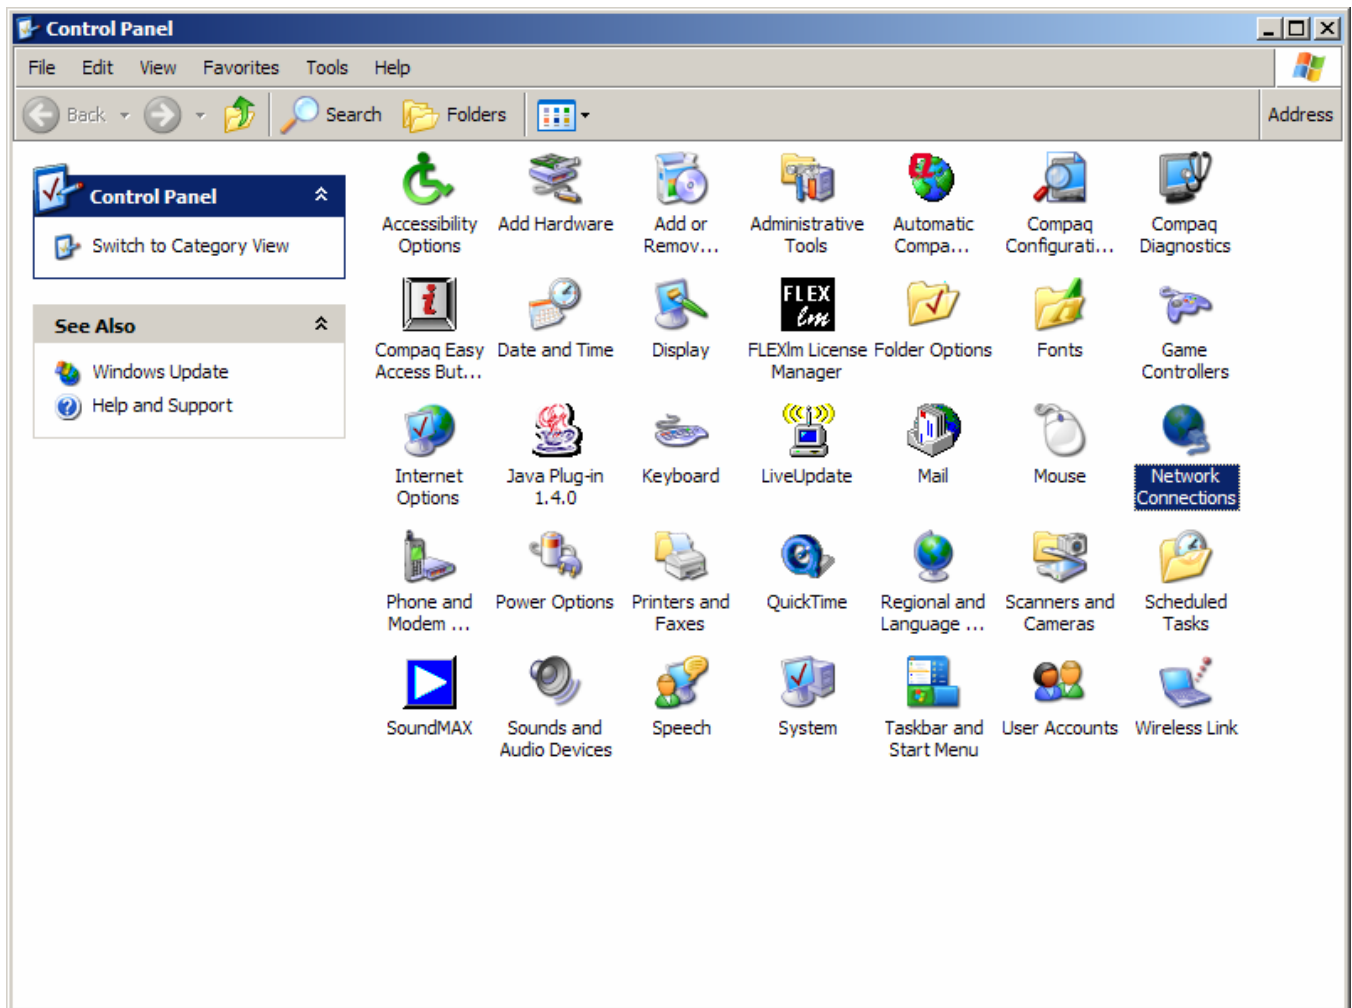

Figure 2
3. In the "Control Panel" window, double click on "Network Connections" See Figure 2